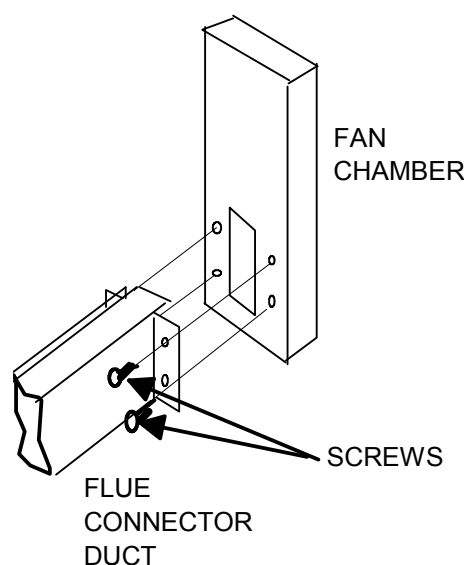

Figure 46
2. Referring to **Figure 46** assemble the flue connector duct (860mm) to the bottom of the fan chamber as shown.